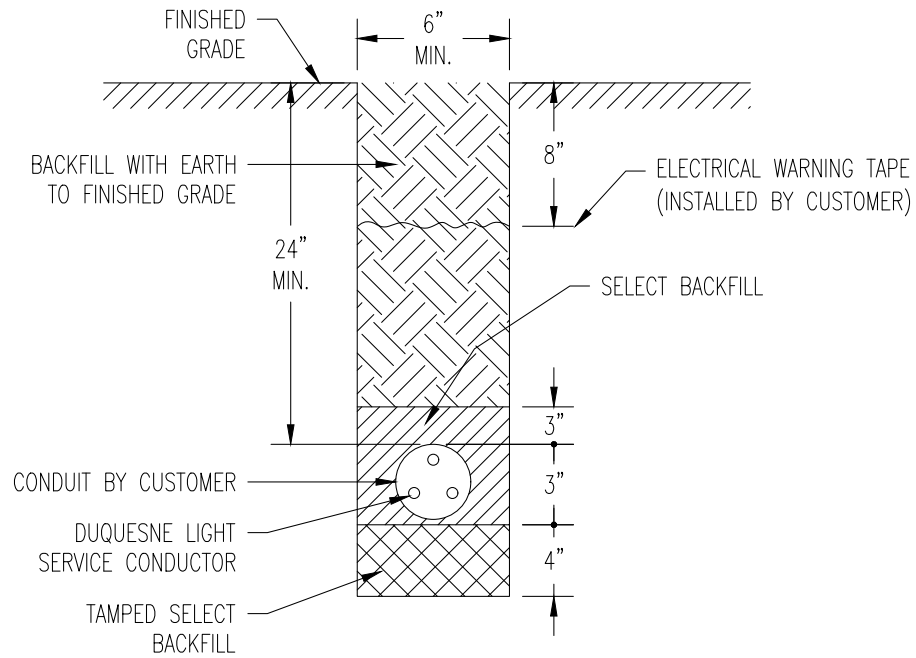

FIGURE 6.
- 4.1.4 A red electrical warning tape shall be provided by the developer and shall be installed by the developer 16" directly above all conduits. This corresponds to approximately 20" below final grade for primary and secondary conduit as shown in figure 7, and 8" below final grade for service laterals as shown in figure 6.
- 4.2.3.1. At the meter base, install a riser conduit and secure to the structure. The company recommends that the customer use a Slip joint connection. See Figure 13.. Install a 3" diameter, 24" radius bend. An 18"x18"x18" gravel drainage pocket shall be installed at the bottom of each conduit bend to drain conduit. Gravel used shall be 2B or ASHTO 57 limestone, free of fines, and non-compacted. Drill four 1/2" diameter holes, spaced on 3" centers, starting from the low point of the bend and proceeding away from the bend. All internal burrs shall be removed. The gravel drainage pocket and the conduit passing through it shall be wrapped in drainage geotextile. Riser conduit and 24" radius bend shall be 3" nominal PVC, schedule 80 per NEMA TC2 (EPC-80-PVC for type IV applications), gray in color only. (All conduit with less than 18" of cover must be schedule 80.) Extend 3" diameter conduit from the meter base to Company's service enclosure or transformer at the street. Service lateral conduit and bend must be 3" nominal PVC, Schedule 40 per NEMA TC2 (EPC-40-PVC for type II applications), gray in color only. Take proper care to prevent debris from entering conduit. Install a 1/4" nylon or polypropylene pulling line within the conduit. Be sure line moves freely after solvent cement has cured. Trench must be deep enough to provide 4" of tamped select backfill below the conduit and 3" of tamped select backfill over the conduit. The minimum total cover over the conduit is to be 24", see figure 6. Select backfill shall consist of sand, crushed stone (such as limestone fragments/dust) or other material approved by the Company. Remaining backfill shall be free of materials that may damage the conduit, and must not contain solid material (rocks, stones, etc.) larger than 2" or with sharp edges.